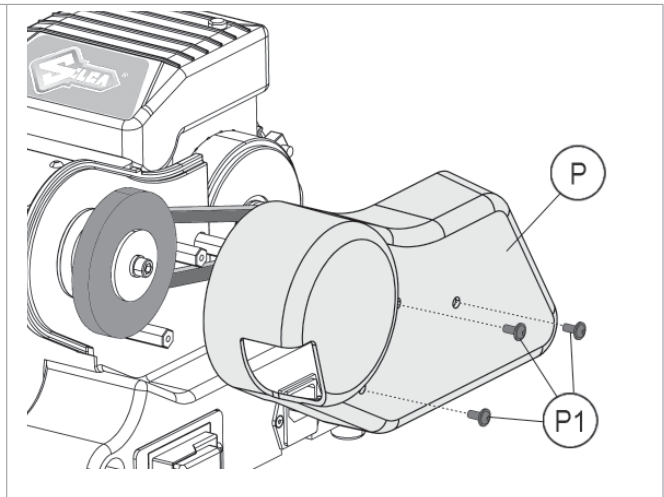

Fig. 54
- 6) Remove the screws (P1), then the protective cover (P) (Fig. 54).
- 3) Remove the cover (P) by loosening the screws (P1) (Fig. 54).
- 8) Place the motor cover (P).